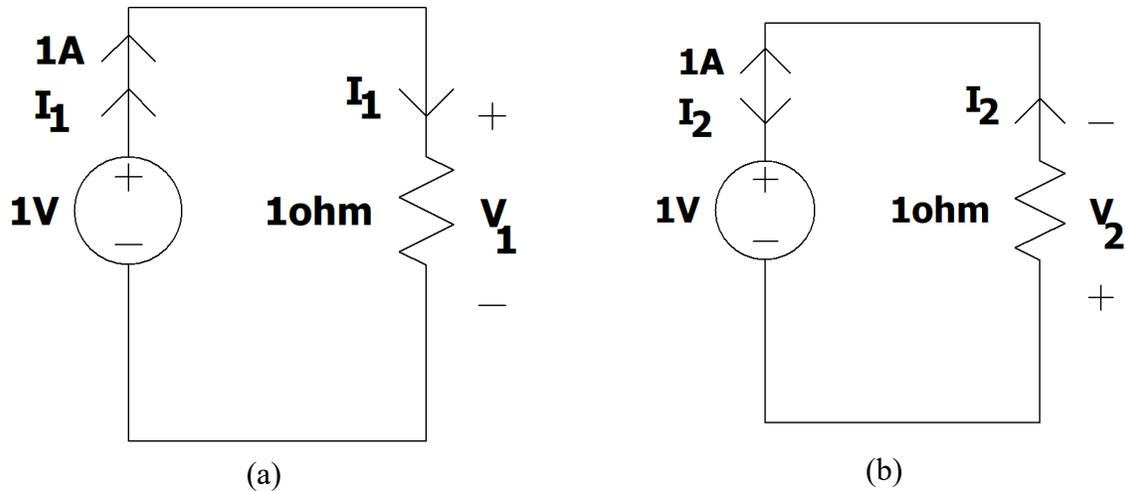

Figure 1. Circuits to illustrate passive sign convention
- Use the wiring tool (the 'pencil' symbol) to connect the components as shown in Figure 1. Simply click where the wire starts, click for intermediate corners, then click at its endpoint.